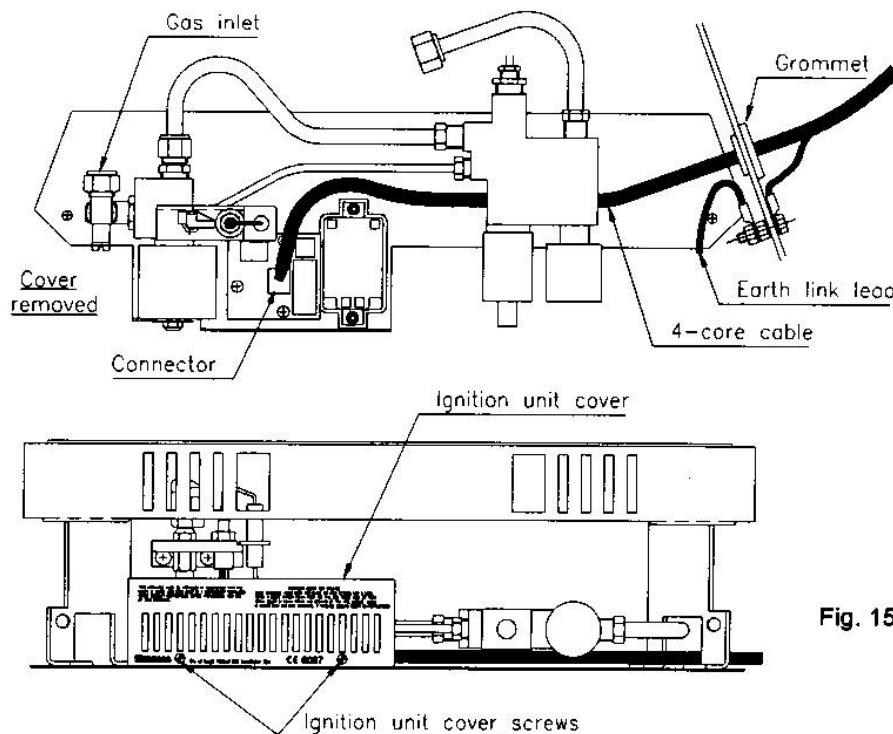

Fig. 15 Burner & ignition unit
1. Connect the earth link lead from the burner to the earth bolt in the firebox side as shown in Fig. 15.
4. Remove the ignition unit cover beneath the burner (see Fig. 15). Route the 4-core cable as shown and plug into the printed circuit board. Fit the cable grommet into the hole in the side of the fire and replace the cover. Do not allow the cable to loop up under the burner.